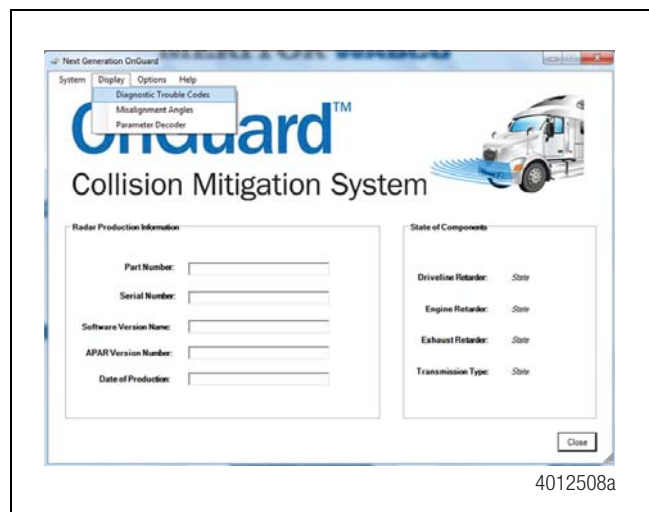
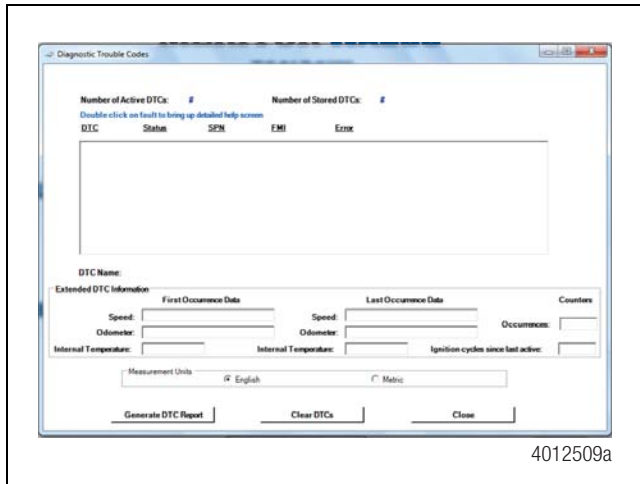

Figure 2.7
Figure 2.8
2. From the pull-down menu, select “Diagnostic Trouble Codes”. A description of the DTC, the number of times the DTC occurred, the suspect parameter number (SPN) and the failure mode identifier (FMI) are all displayed in the Diagnostic Trouble Codes window. Figure 2.7 and Figure 2.8.
DTCs can be cleared after generating a fault report. Only stored DTCs will clear. Figure 2.8.